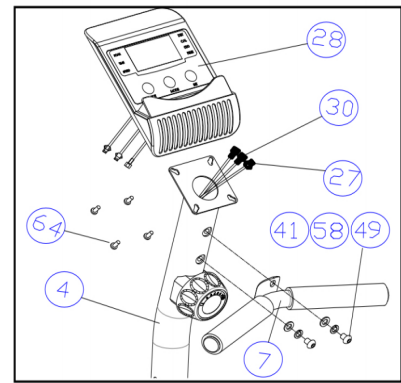

Figure 4
b. Take over by 2 sets of Half-Roundhead Hex Bolt (No.49), Spring washer (No.58) and ARC washer (No.41) will hand over Handlebar support-front (No.7) connected to the Handlebar Support (No.4) tighten. (See Figure4)